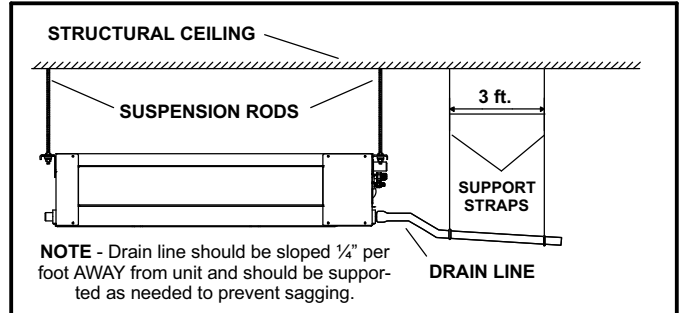

Figure 10. Sloped Condensate Drain — Single Unit
- 3 - See figure 10 for applications including a single unit and a single drain. In this case, ensure that the drain line is properly sloped (no less than 1/4 inch per foot) and condensate lines are routed to ensure moisture is drained away from the indoor unit.